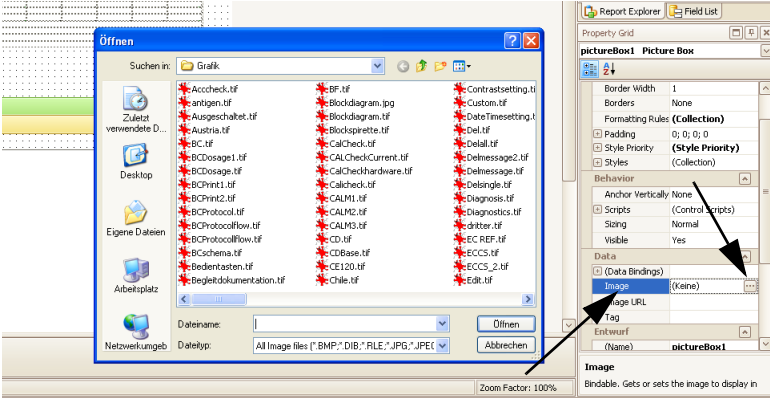

Fig. 12-6: Image button
- Select **Image** and click  to open the Explorer (Fig. 12-6).
- Select the logo (Fig. 12-6). The logo will appear in the frame.